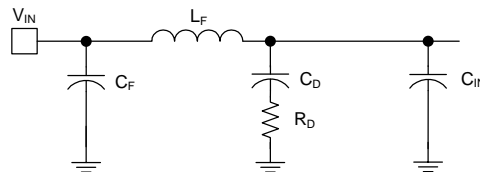

Figure 29. Input EMI Filter
Referring to Figure 29, the purpose of R_D is to reduce the peak output impedance of the filter at the cutoff frequency. The capacitor C_D blocks the dc component of the input voltage, and avoids excessive power dissipation on R_D . The capacitor C_D should have lower impedance than R_D at the resonant frequency, with a capacitance value greater than the filter capacitor C_{IN} . This will prevent it from interfering with the cutoff frequency of the main filter. Added damping is needed when the output impedance is high at the resonant frequency (Q) of filter formed by C_{IN} and L_F is too high):